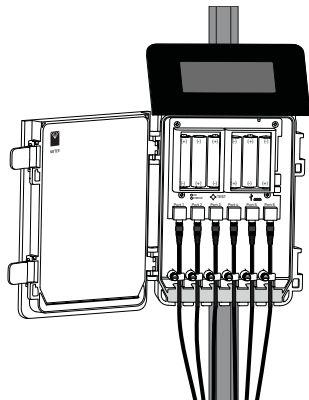

Figure 4 Logger connection
- 1. Plug the stereo plug connector into one of the sensor ports on the logger (Figure 4).